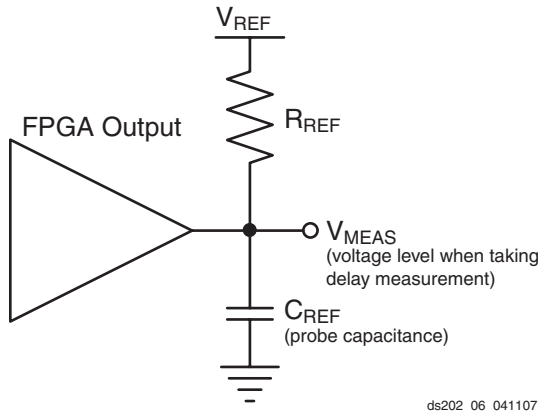

Figure 6: Generalized Test Setup
- This is an input voltage reference that bears no relation to the  $V_{REF} / V_{MEAS}$  parameters found in IBIS models and/or noted in Figure 6.
Output delays are measured using a Tektronix P6245 TDS500/600 probe (< 1 pF) across approximately 4" of FR4 microstrip trace. Standard termination was used for all testing. The propagation delay of the 4" trace is characterized separately and subtracted from the final measurement, and is therefore not included in the generalized test setup shown in **Figure 6**.